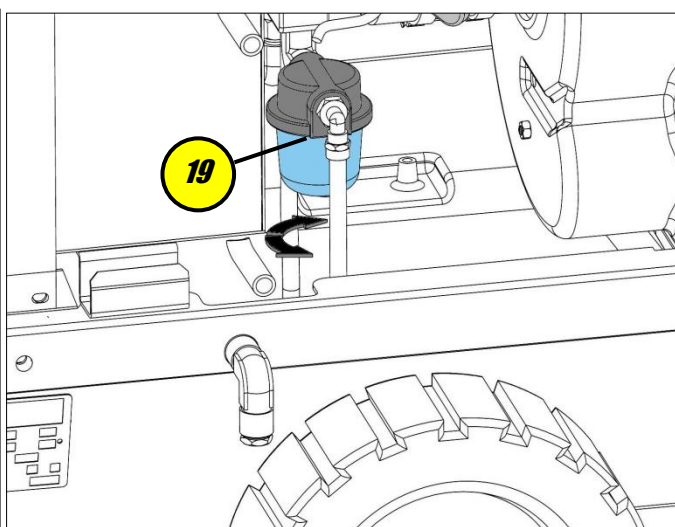

Figure 14
- Unscrew the filter cup 19 (fig.14);